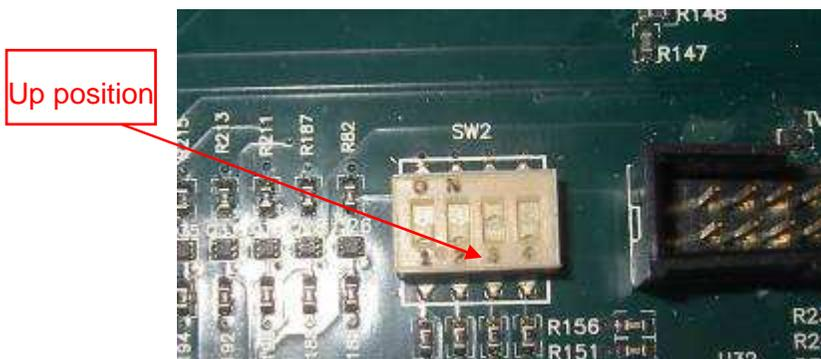

Figure 126
2. Locate SW2 on the MB .Use small head screw driver to toggle up the third mini switch (Figure 126). The default position is down.